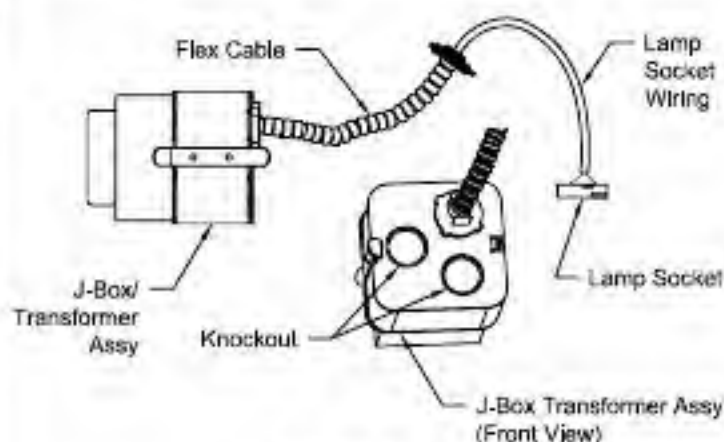

Figure 2
3. Connect wiring inside J-Box/Transformer Assembly (See Fig. 2) to Existing Electrical Service through Knockouts provided.